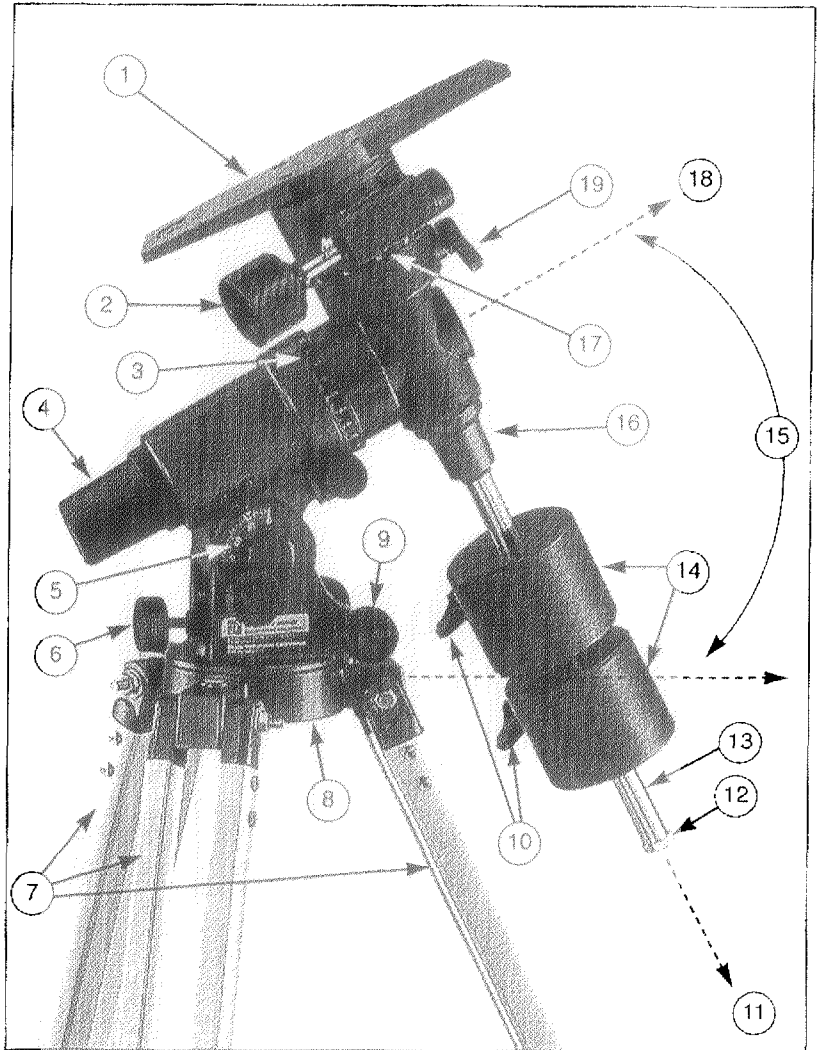

Fig. 1: LXD 500B Equatorial Mount
Captions for Fig. 1
At the end of the counterweight rod (3), Fig. 5, unscrew the counterweight safety stop (12), Fig. 1. Slide one counterweight onto the rod and lock in place by tightening its black counterweight lock screw (10), Fig. 1. For the LXD 500B mount, slide the second counterweight into place and tighten its lock screw. When the counterweight(s) is secure, replace the counterweight safety stop. **Be certain that the counterweight safety stop is always securely in place.**
1. Loosen the R.A. lock lever (3), Fig. 6, by rotating the lever counterclockwise until it stops. The Optical Tube Assembly now rotates freely about the Polar Axis (18), Fig. 1. Rotate the telescope so that the counterweight rod is parallel to the ground (horizontal).
2. Loosen the counterweight lock screw(s) (10), Fig. 1, and slide the counterweight(s) along the rod until the telescope remains in one position without tending to drift in either direction. Re-tighten the counterweight lock screw(s) and the R.A. lock lever (3), Fig. 6.
3. Loosen the Dec lock lever (2), Fig. 6, by rotating the lever counterclockwise until it stops. The Optical Tube Assembly now rotates freely about the Declination Axis (11), Fig. 1. Rotate the telescope so that the tube is parallel to the ground (horizontal).
Note: The Fine Azimuth Adjustment Knobs (9), Fig. 1, are generally only utilized during the precise polar alignment procedure described in the instructions accompanying the #812 Polar Alignment Finder.